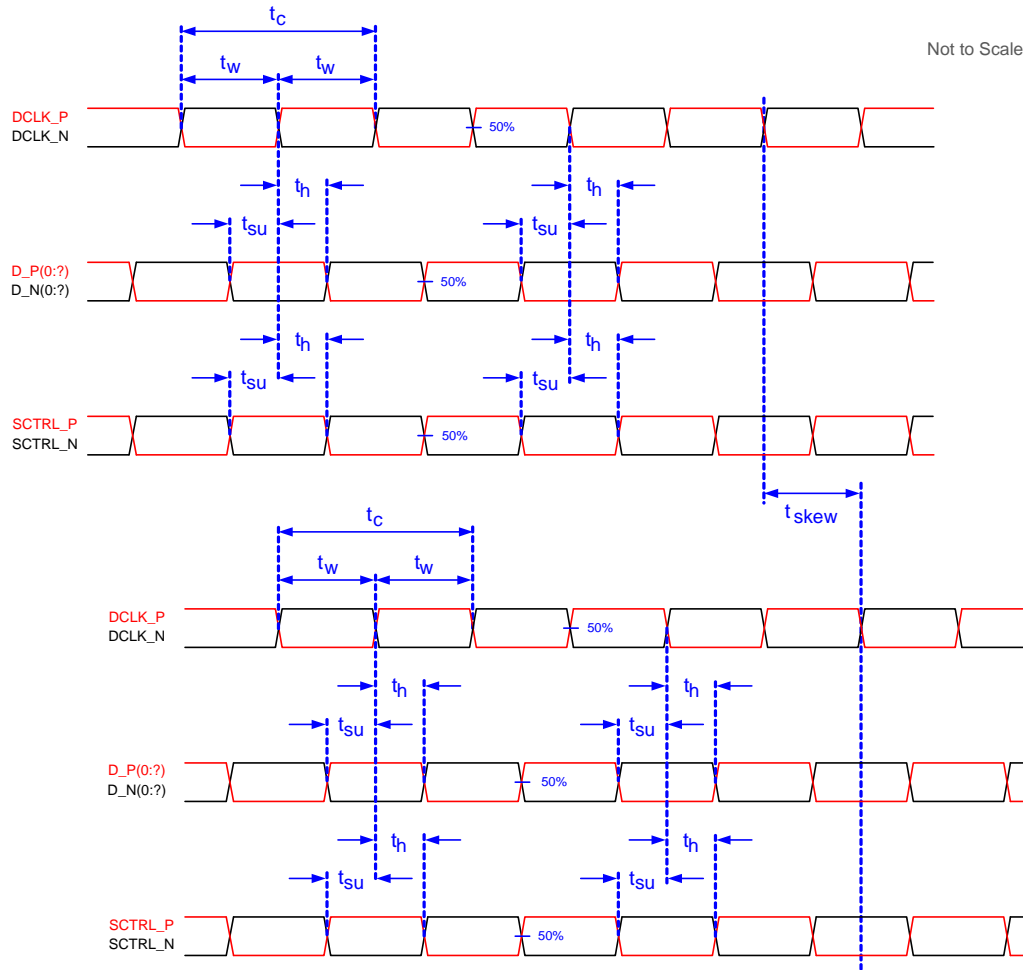

Figure 7. Timing Requirements
(7) See LVDS Timing Requirements in Timing Requirements and Figure 7.
(1) See Figure 7 for timing requirements for LVDS.
(2) Channel A (Bus A) includes the following LVDS pairs: DCLK_AN and DCLK_AP, SCTRL_AN and SCTRL_AP, D_AN(15,13,11,9,7,5,3,1) and D_AP(15,13,11,9,7,5,3,1).
(3) Channel B (Bus B) includes the following LVDS pairs: DCLK_BN and DCLK_BP, SCTRL_BN and SCTRL_BP, D_BN(15,13,11,9,7,5,3,1) and D_BP(15,13,11,9,7,5,3,1).